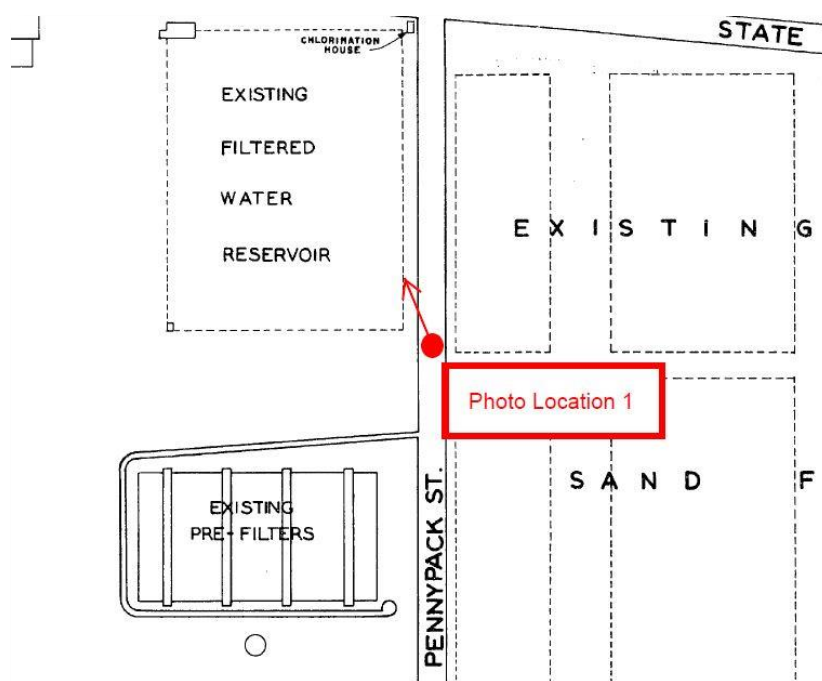

Figure F-5 – Example of Photo Location Image
15. The photographer should mark up the plans indicating the locations and directions the photos were actually taken (Figure F-5 below). Different photos should be indicated by the photo number.